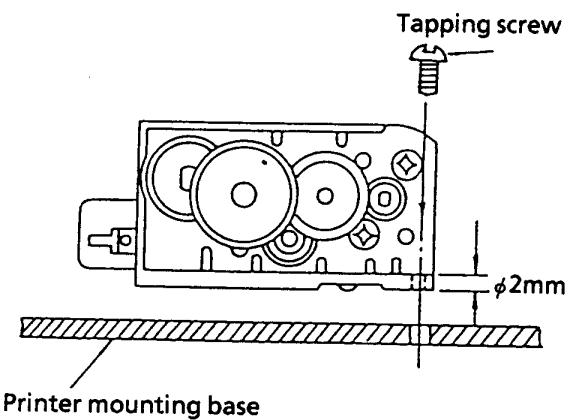

Figure 8-5 Mounting with Screws (MTP201 and 401 Printer)
① When mounting with screws With the  $\phi 2.2$  mm holes at the corners of the printer as a reference for positioning, fix the printer on the printer base by tightening the tapping screws from the top of the printer (see Figure 8-5).